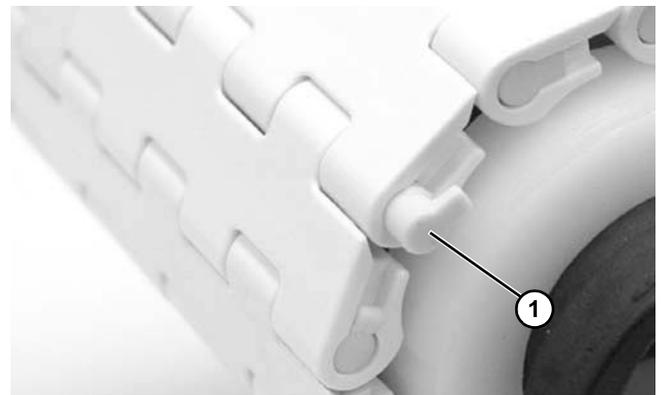

Figure 46
5. Insert rod retaining end caps (Figure 46, item 1) on both sides of belt.